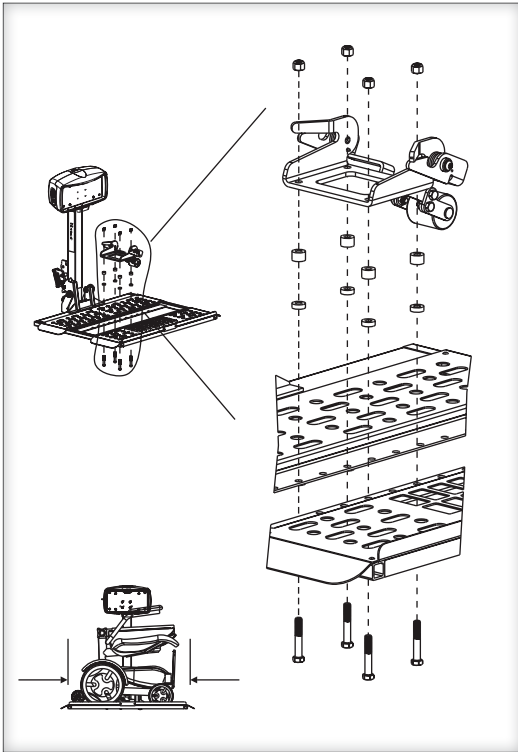

Figure 37-1
**3. Reassemble Dock 'N' Lock.** Select the holes that will center the chair width-wise onto the platform. Use spacers as required to match the height of the plow on the chair. [Figure 37-1]